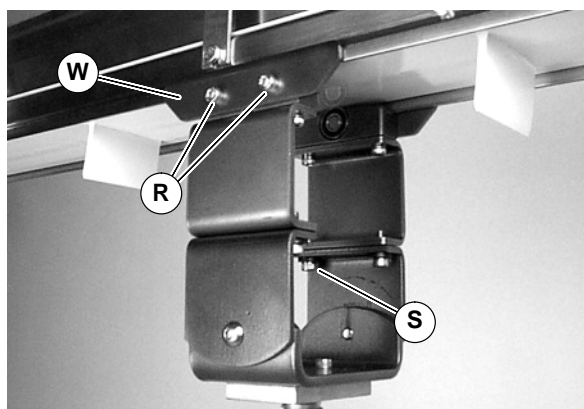

Figure 26
- Install assembly (W of Figure 26) on bottom of conveyor. Tighten bracket screws (R) to 80 in-lb (9 Nm).